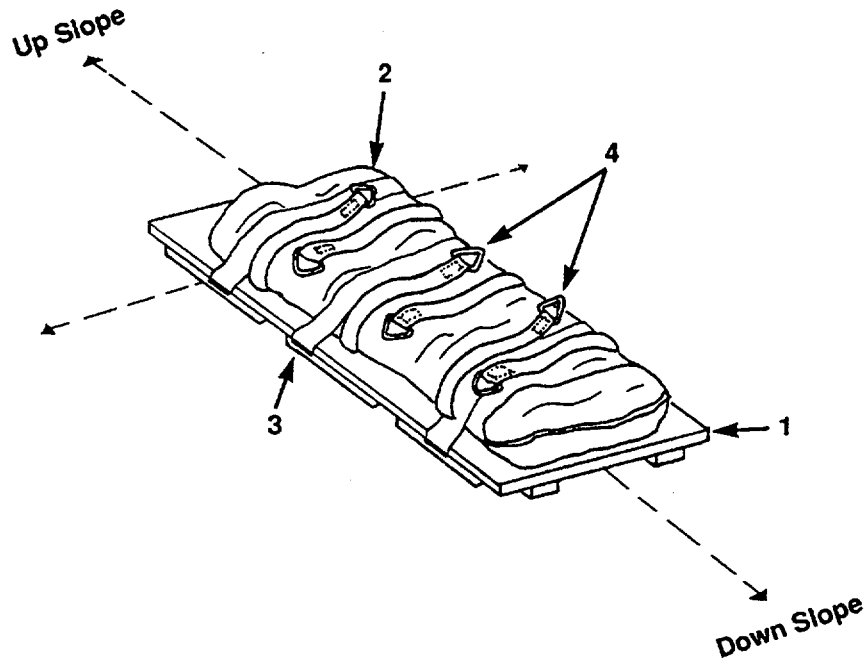

Figure 4-1. Skid Placement
a. Skid Placement. (refer to figure 4-1)
- (1) Place the skid (1) containing the tank (2) in the middle of the prepared site.
- (2) The length of the skid (1) must be parallel to the slope fail line.
b. Tank Removal. (refer to figure 4-1)
- (1) Remove 3, 3 inch tiedown straps (3) from skid and tank. Retain for future deployment.